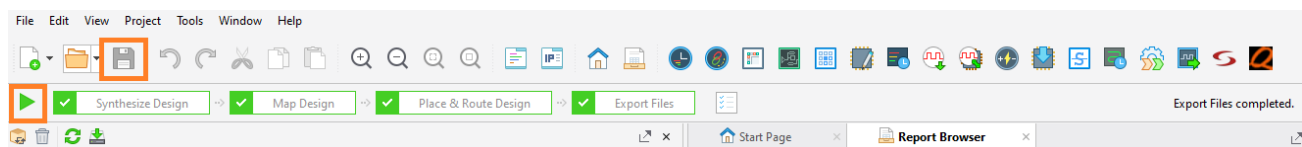

Figure 7.7. Save and Recompile of the Design
8. Save the design changes and recompile the design as shown in Figure 7.7. Please use the configuration bit file located in the new design. The bit file in the original design is available in *Hardware\VersaBoard\MultifunctionDemo\Implementation\MultifunctionDemo_Implementation.bit*.